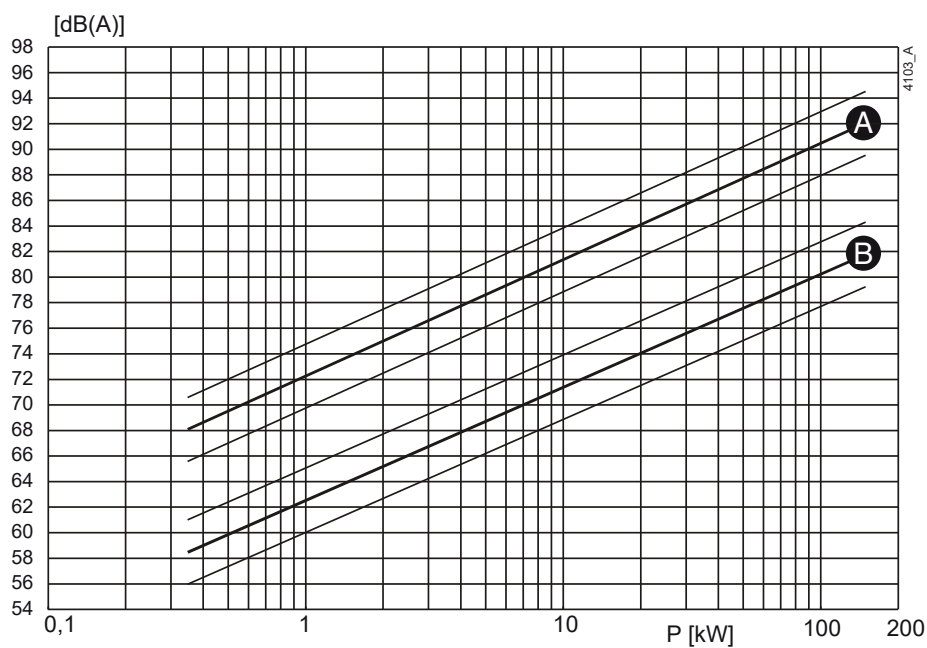
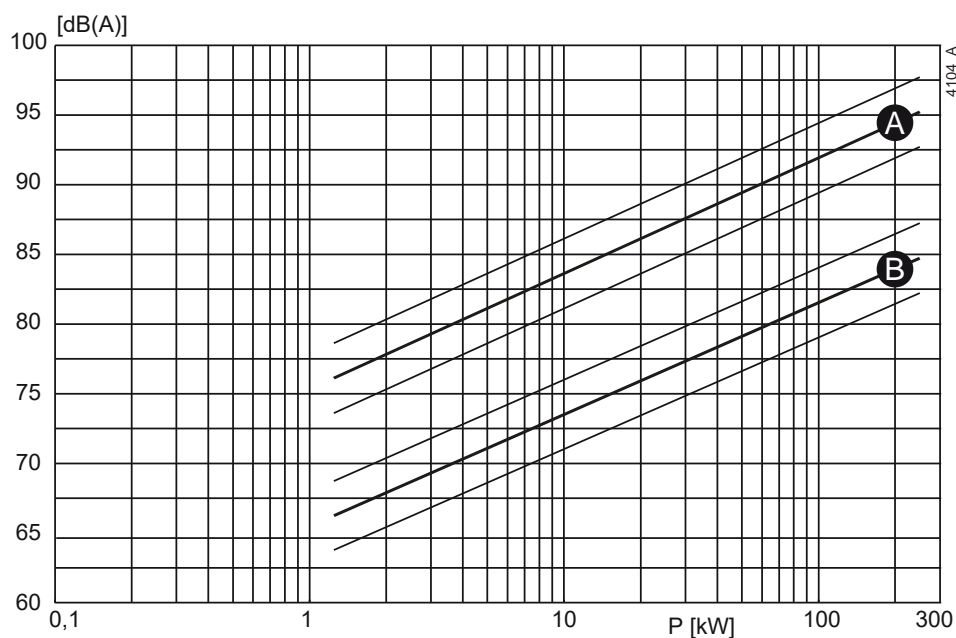

Figure 30: Noise level as function of pump power [kW] at 1450 rpm
Figure 31: Noise level as function of pump power [kW] at 2900 rpm
- 1 Determine the noise level (L1) of the pump, see figure 30 or figure 31.